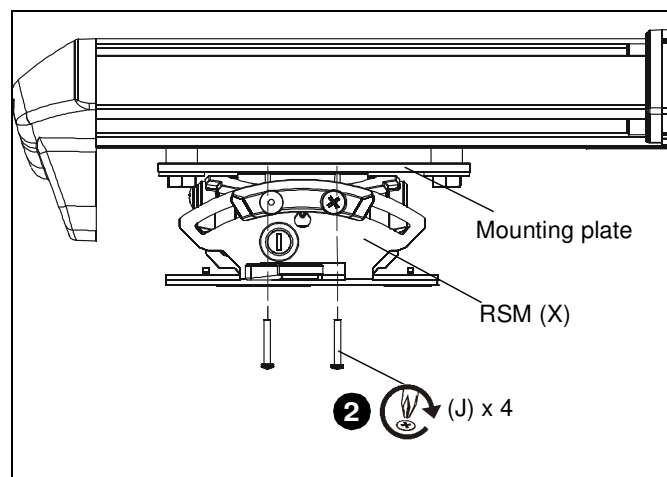

**Figure 18**
2. Install four 1/4-20 x 1-1/2" Phillips pan machine screws (H) through RPM holes and into projector mounting plate. (See Figure 18)